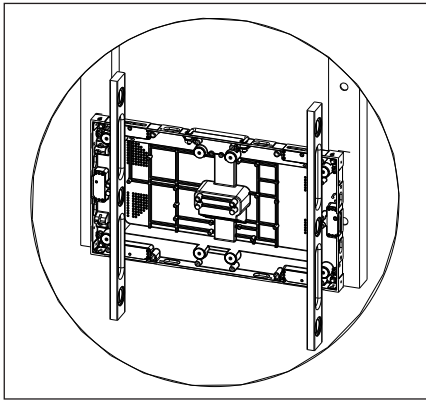
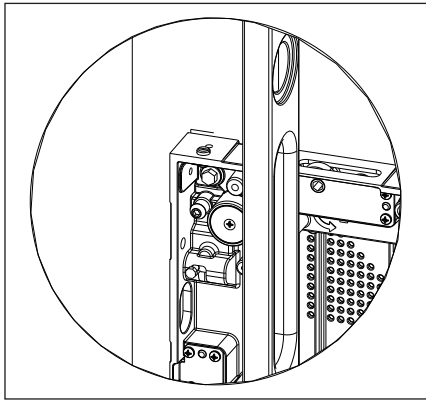

Figure 5: Ensure Panel Is Level & Vertically Plumb
Figure 6: Adjust Jacking Hardware
- 6. Ensure the panel is level and vertically plumb. Refer to **Figure 5**. Adjust the jacking hardware to correct any plumbness issues. Refer to **Figure 6**.